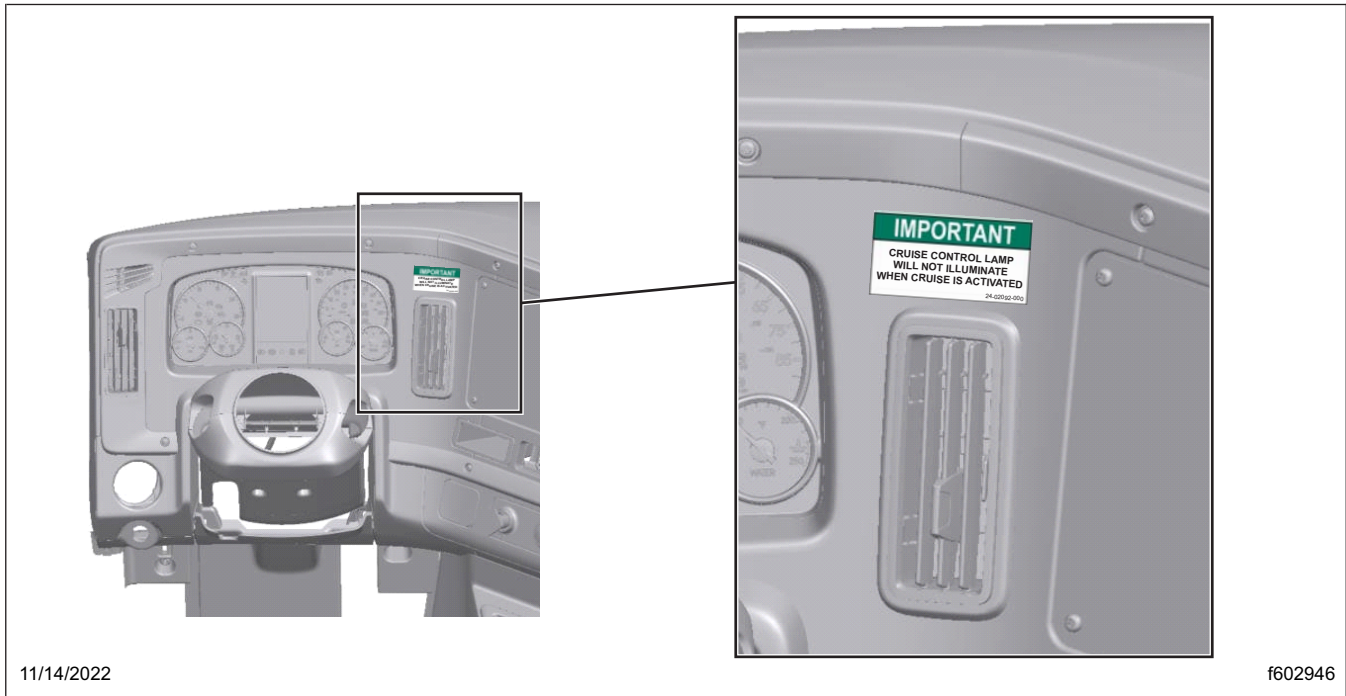

Fig. 16, Removing the Label
31. Inside the cab, carefully remove the label that reads 'IMPORTANT CRUISE CONTROL LAMP WILL NOT ILLUMINATE WHEN CRUISE IS ACTIVATED.' The label is located on the dash A-panel, near the driver instrument panel. See Fig. 16.